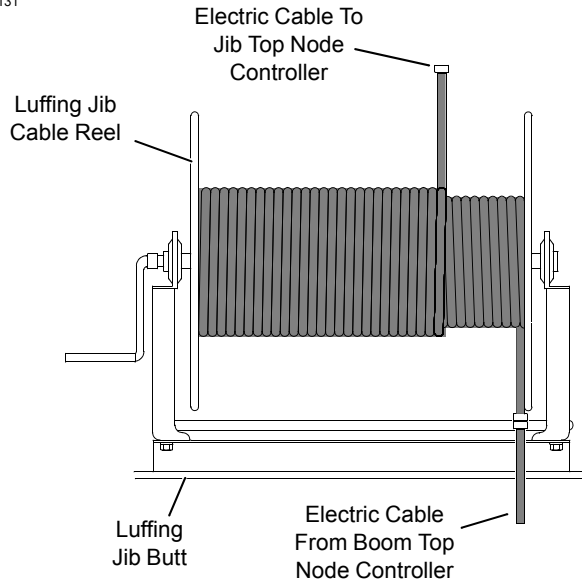

FIGURE 6-8
5. Cable reel in jib butt (Figure 6-8) (allows cable to be lengthened or shortened to meet varying jib lengths).